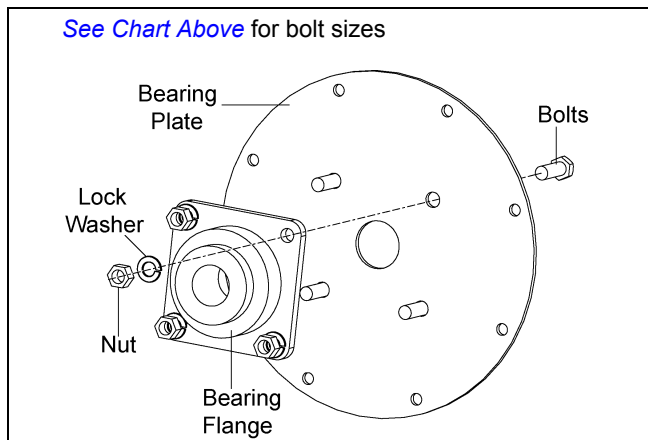

Figure 4H
- B. Secure Bearing to Bearing plate using appropriate bolts, lock washers, and nuts. *(See Chart Below)* and *(See Figure 4H)*